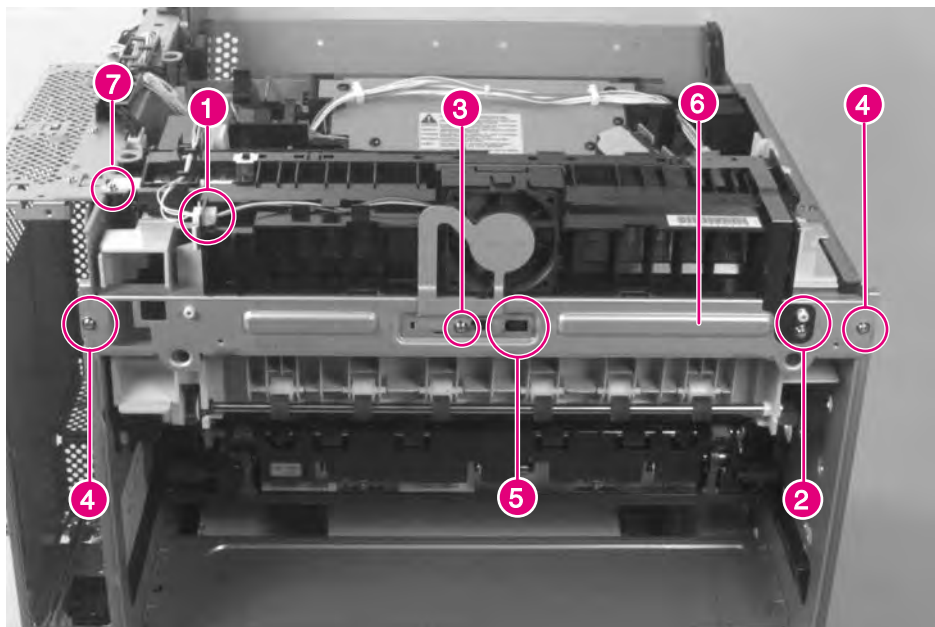
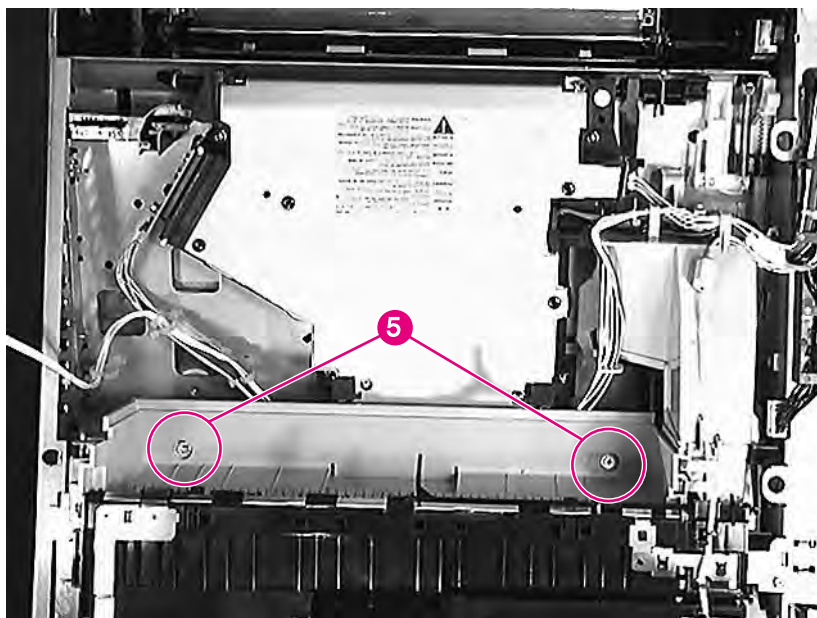

Figure 6-12 Delivery Unit (1 of 2)
Figure 6-13 Delivery Unit (2 of 2)
- 2 Unplug and re-route the fan cable out of the way (figure 6-12, callout 1).
- 3 Remove 1 screw (figure 6-12, callout 2) to loosen the grounding strip.
- 4 Remove 1 screw (figure 6-12, callout 3), and remove the metal fan shield.
- 5 Open the Diverter Assembly access door, remove 2 screws (figure 6-12, callout 4), release the plastic retaining tabs (figure 6-12, callout 5), and remove the metal mounting bracket (figure 6-12, callout 6).
- 6 Remove 2 screws (figure 6-13, callout 5) and 1 screw (figure 6-12, callout 7).
- 3 Replace the metal mounting bracket (figure 6-12, callout 6) before replacing the Delivery Unit screws. Make sure that the plastic clips (figure 6-12, callout 5) are snapped into place before tightening the mounting screws (figure 6-12, callout 4).